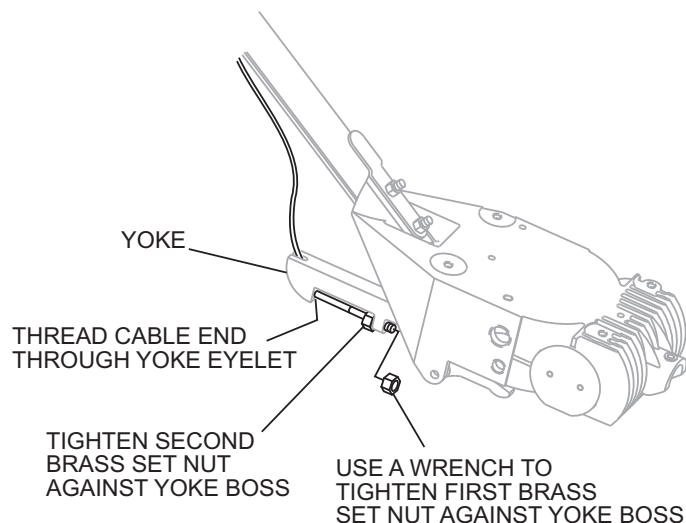

Figure 14. Cable Yoke Attachment
5. Insert the cable end through the yoke eyelet (Figure 14). Tighten the first brass set nut by hand to remove all the slack from the cable.